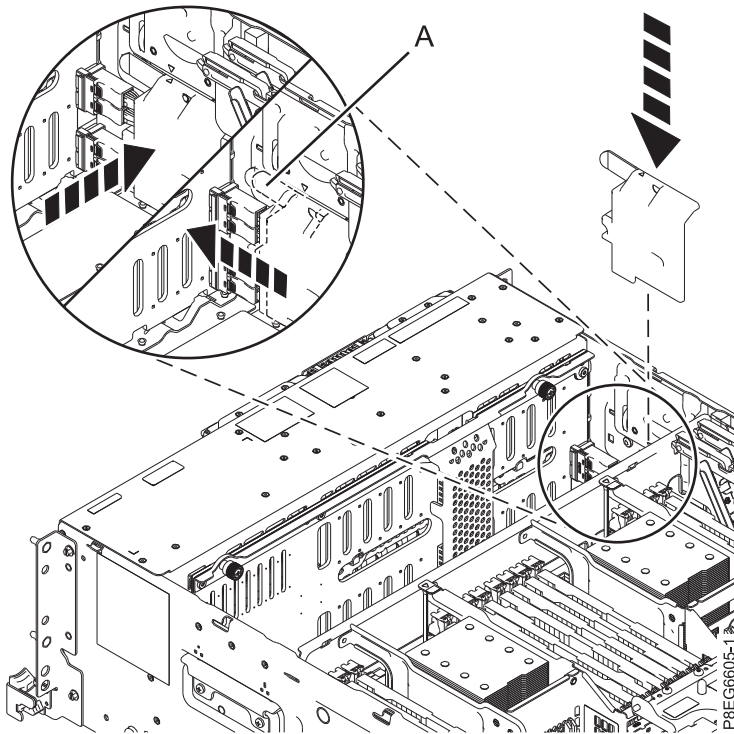

Figure 106. Replacing the SAS cable cover
38. Replace the SAS cable cover. Place the cover slots onto the pins on the side of the chassis. The triangle symbol on the SAS cable cover lines up with the triangle symbol on the side of the chassis when the cover slots and pins are aligned correctly. Push the cover forward toward the front of the system until the handle (A) latches in place. See Figure 106.